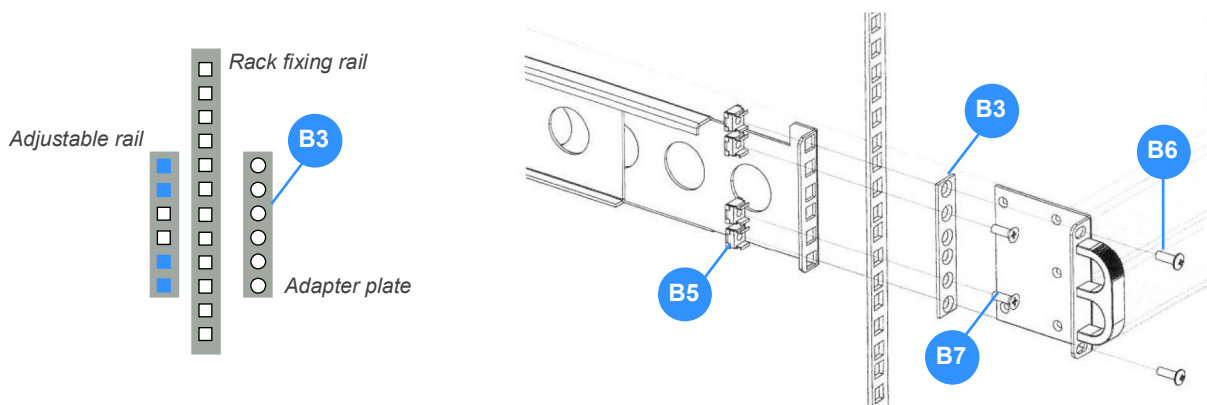

Figure 3.8 2U Adjustable rail front mounting
7. Secure the adjustable mounting rail to the rack's front vertical fixing rail using two countersunk bolts (B7) and adapter plate (B3) (see Figure 3.8).
9. When both mounting rails are fitted, carefully insert the UPS / Battery enclosure into the rack so that it rests correctly on the rails. Then secure it in place using the four dome head bolts (B6) as shown in Figure 3.8.